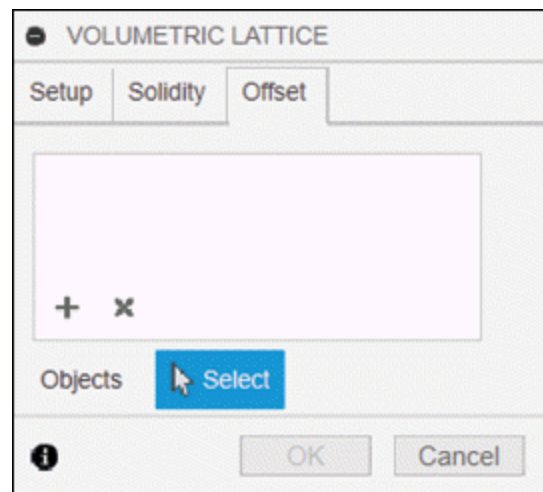
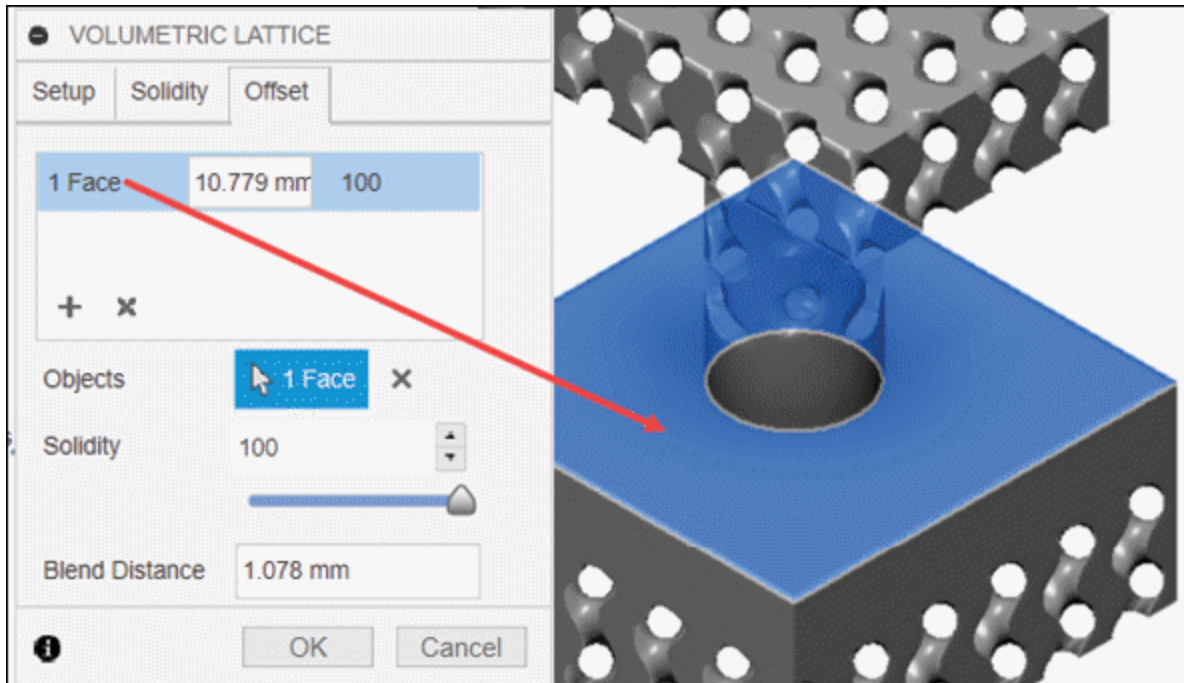

Figure-79. Offset tab
Figure-80. Face selected for offset solidity
- Click on the **Offset** tab from the dialog box to set different solidity percentage for selected face; refer to Figure-79. Click on the **Add Objects** button from the dialog box and select face of model to which you want to apply different solidity; refer to Figure-80.